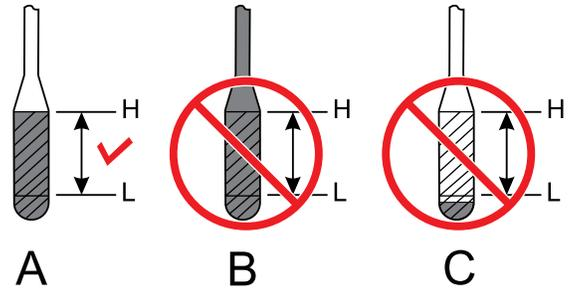

Figure 9. Engine Oil Dipstick
3. Reinsert dipstick, then remove dipstick from its holder. Check the oil level shown on the dipstick (Figure 9).